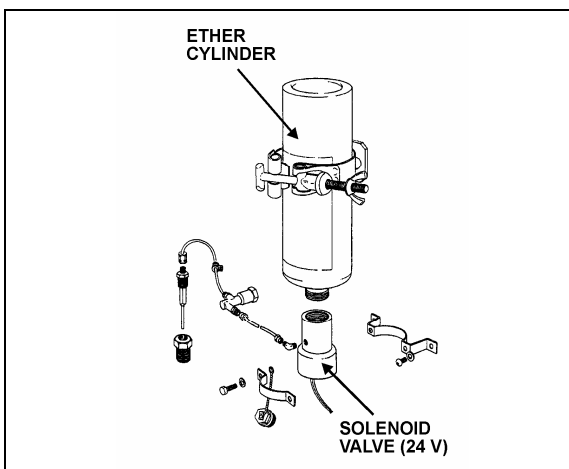

FIGURE 22: COLD STARTING AID
1. Check cylinder for hand tightness and fuel supply (Fig. 22). Empty cylinder weight is approximately 17 oz (480 g); full cylinder weight is approximately 35 oz (990 g). If